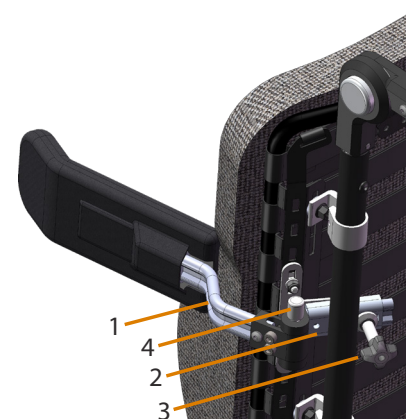

Figure 34. Thoracic support
The thoracic support is mounted by inserting the profile (1 in Figure 34) in the thoracic support mount (2) on the backrest. It is secured at the desired position with a knob (3). **Note:** Do not tighten too hard, the knob and mount can be damaged.